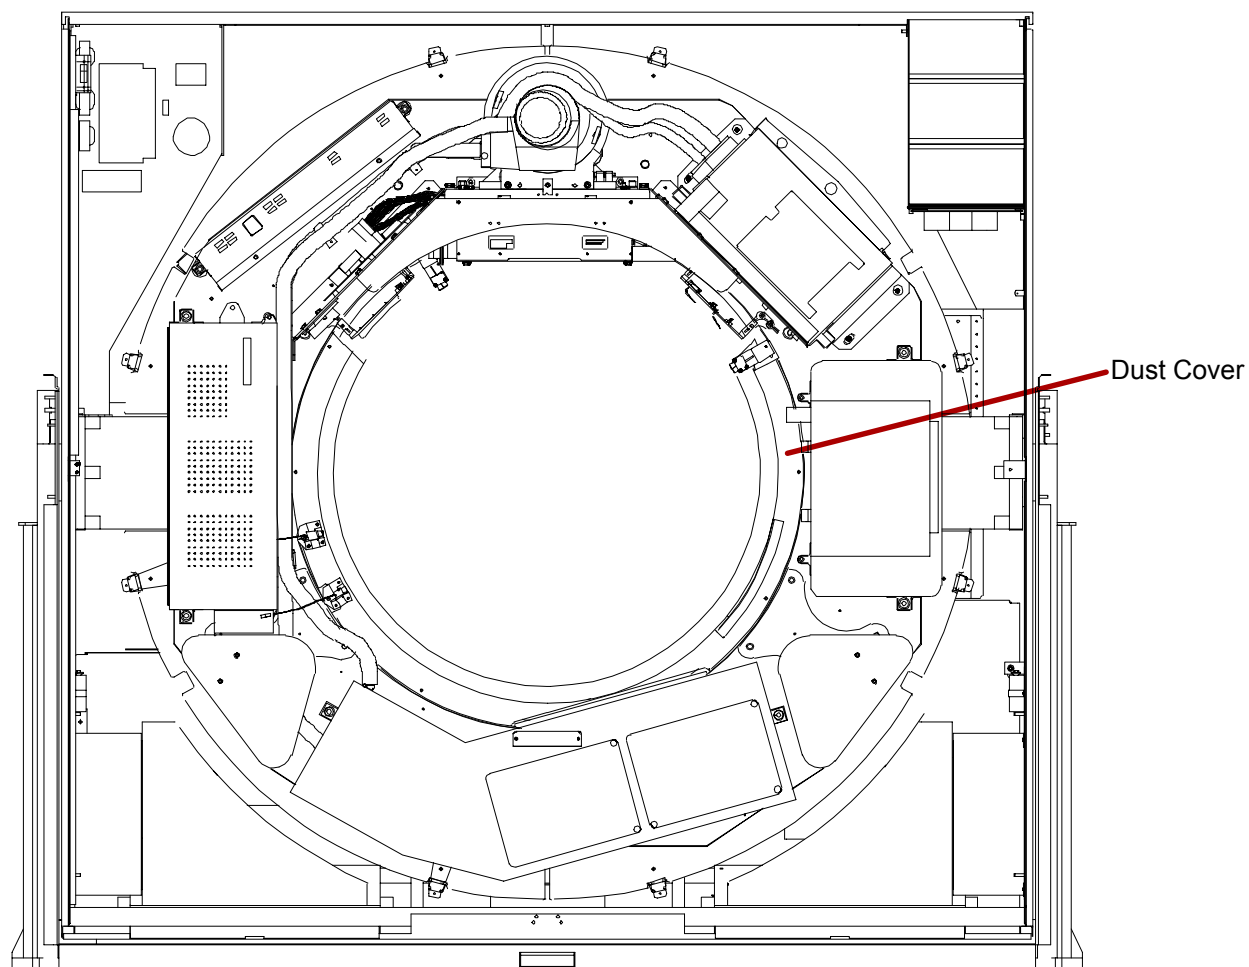

FIGURE 309 Gantry Pinned with Tube at 12:00 / Dust Cover Location
3. Rotate the Scan Frame counterclockwise by hand until the X–Ray Tube is at the 12:00 position. Lock the Scan Frame with the Locking Pin. See Figure 309.